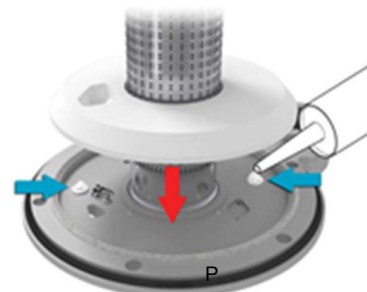

Figure 20.16
- put two dots of temperature-resistant silicone glue according to the location indicated in figure 20.16. Use only either Loctite 5366 or Ottoseal S17.